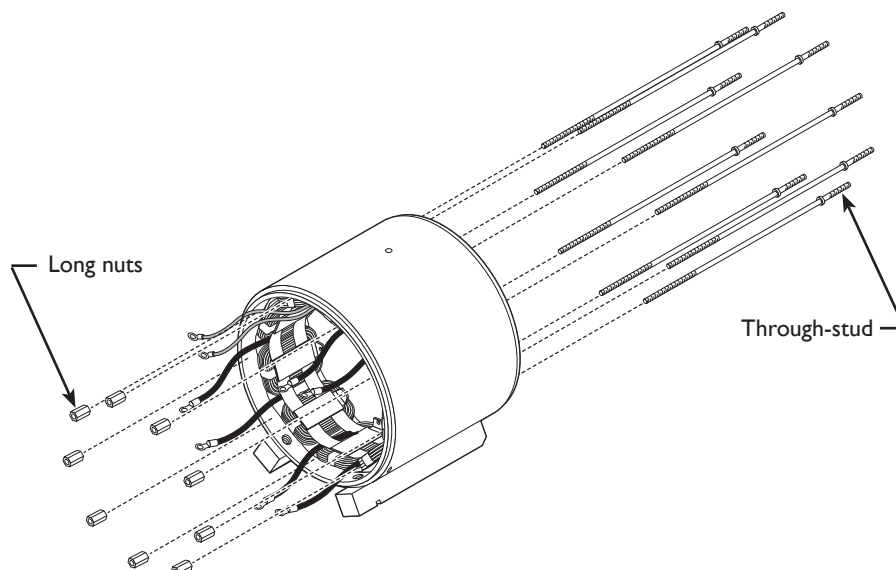

Figure F-1d Through-stud Assembly
- h. Insert through-studs from anti-drive end. See Figure F-1d.
- i. Use locknuts to secure through-studs on drive end of shell. See Figure F-1d. Hex flat on screw-head must be parallel to winding. Use a suitable adhesive such as Loctite® 222 on threads. Follow manufacturer's instructions. Torque nuts on drive end to 4.5 Nm/40 lb. in.